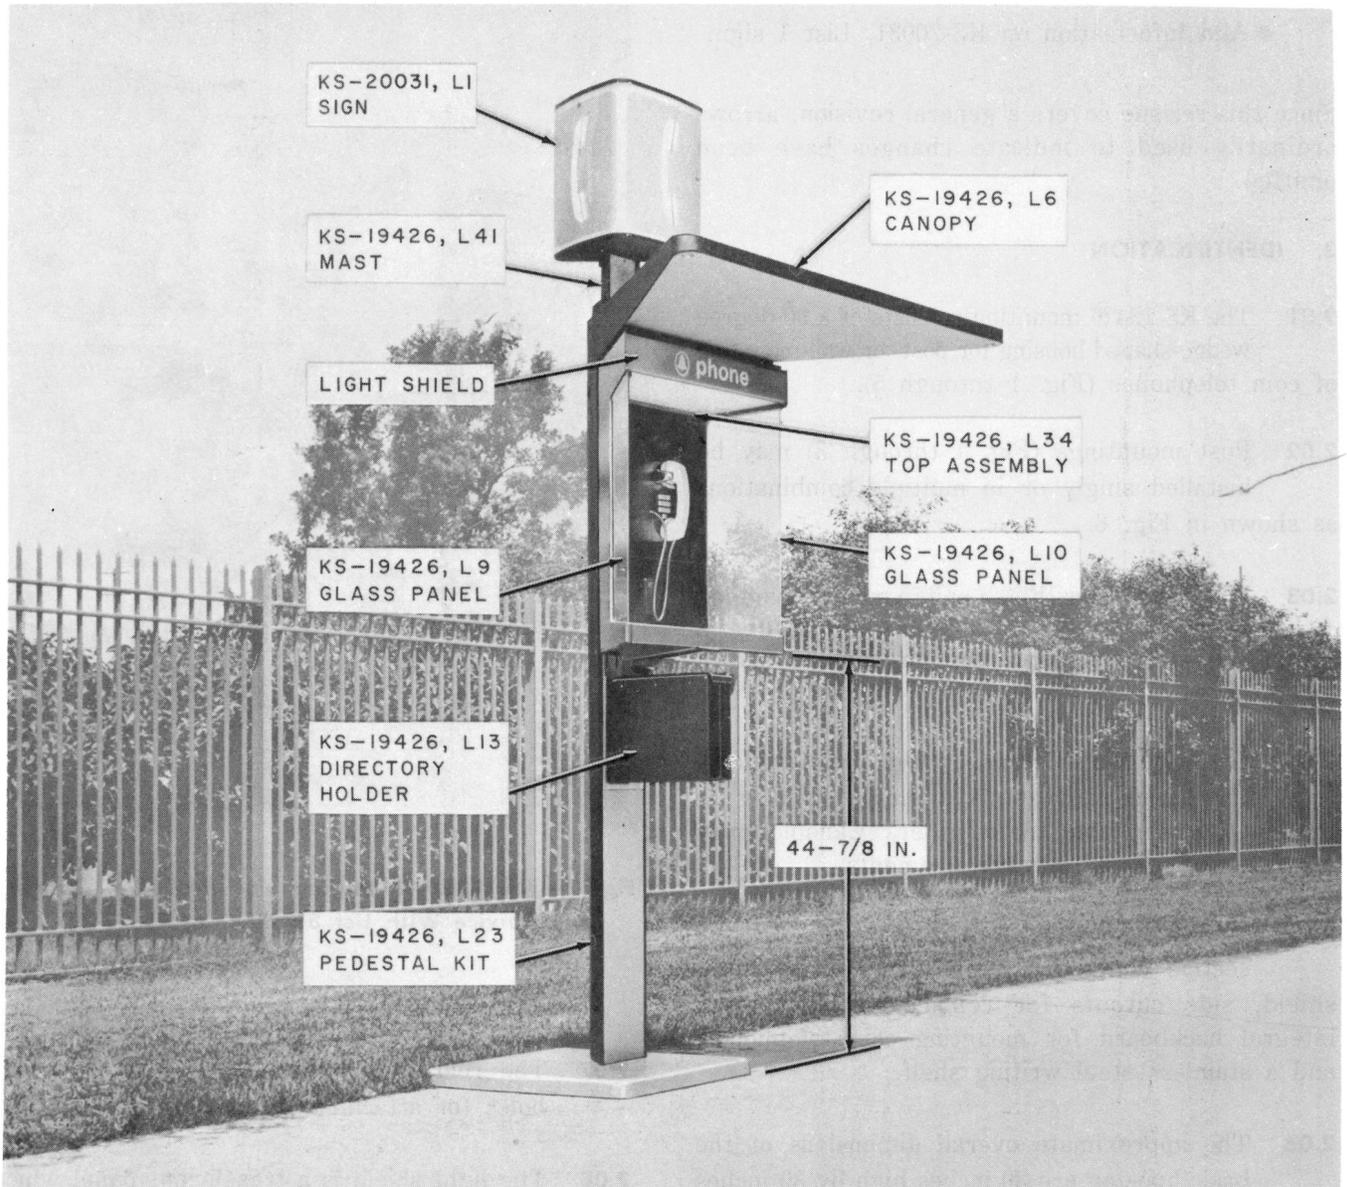
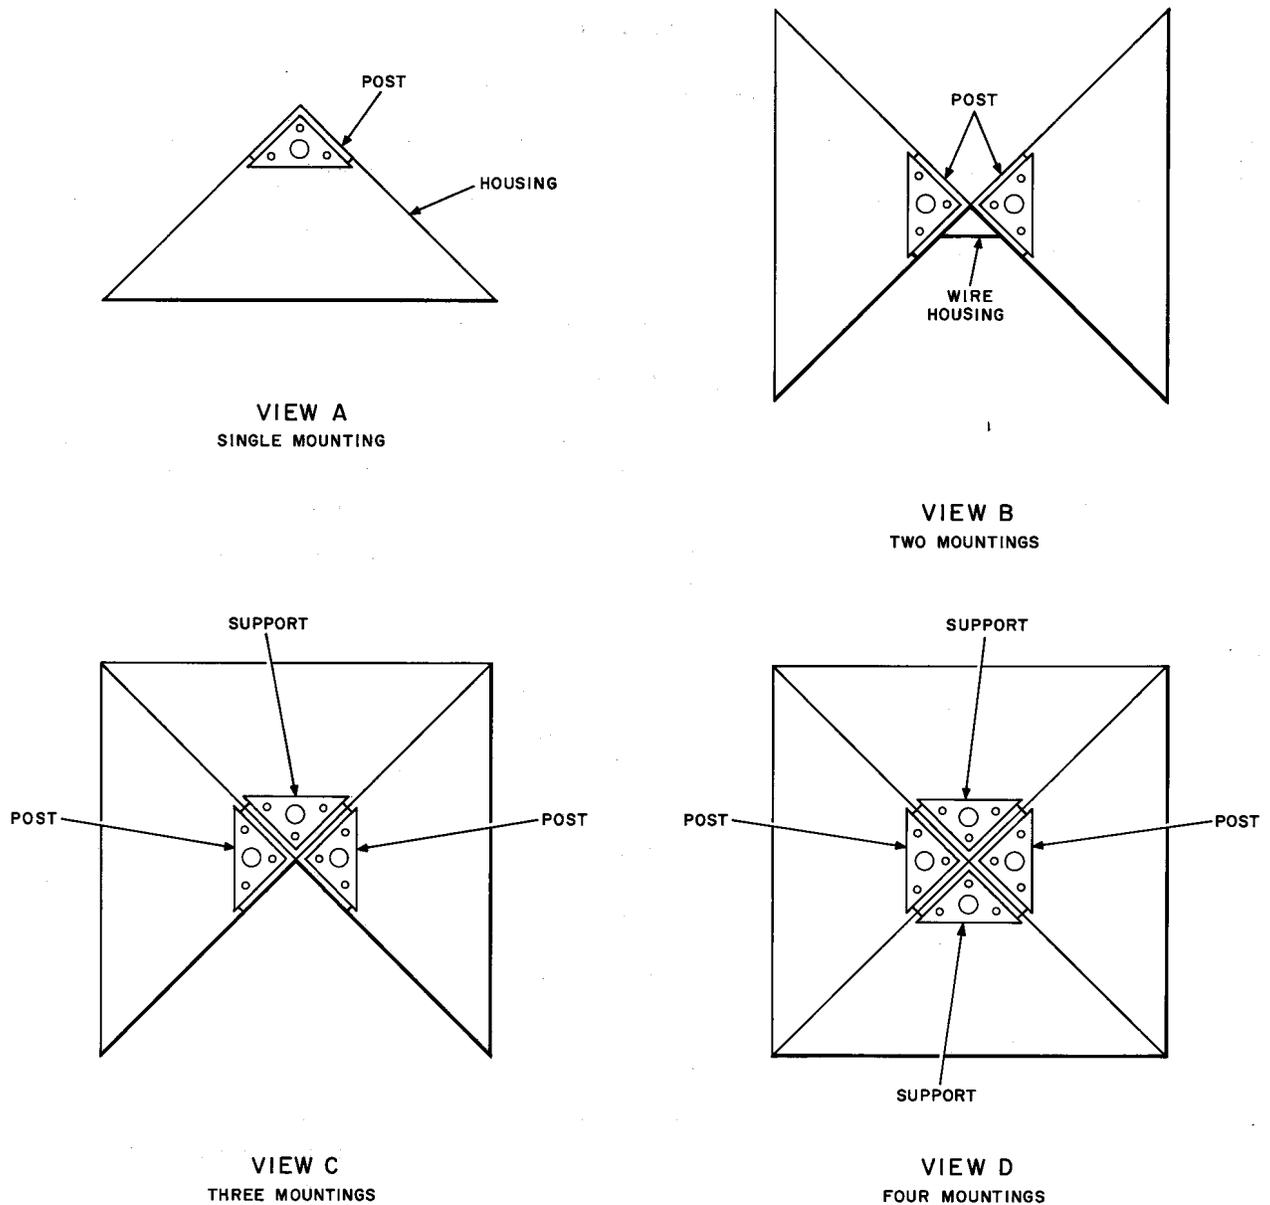

Fig. 1—KS-19426 Mounting For Walk-Up Outdoor Service With List 41 Mast and KS-20031 Illuminated Sign
Fig. 6—Various Arrangements For Post Mountings
2.01 The KS-19426 mounting consists of a 90-degree wedge-shaped housing for post- or wall-mounting of coin telephones (Fig. 1 through 5).
2.02 Post mountings (Fig. 1 through 3) may be installed singly or in multiple combinations as shown in Fig. 6.
2.04 A wedge-shaped canopy (Fig. 1) is available for installation above a single housing to protect the user from the weather. Canopies may also be used in multiple arrangements.
- (a) List 13 directory holder (Fig. 1 through 3) for outdoor use.
**2.14** A KS-20031, List 1 sign, illuminated with a special 100-watt mercury lamp, is available for use with the mounting. If a List 39, or List 40 mast is not used, a List 41 mast must be ordered for mounting the sign (Fig. 1). See Section 508-810-202 for additional information on the sign.